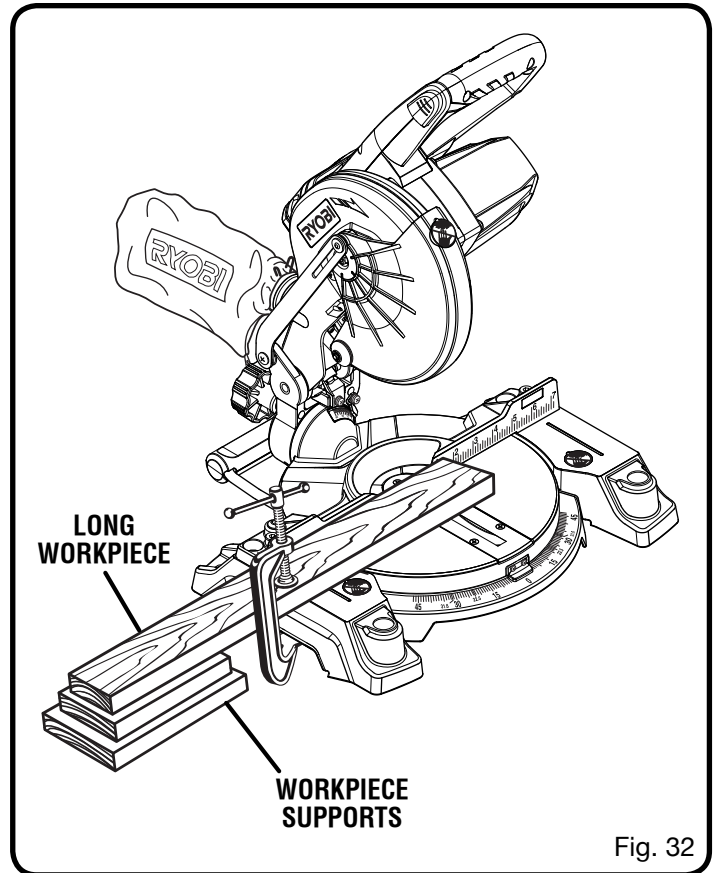

Fig. 32
- When cutting long pieces of lumber or molding, support the opposite end of the stock with a roller stand or with a work surface level with the saw table. See Figure 32.
- When cutting long pieces of lumber or molding, support the opposite end of the stock with a roller stand or with a work surface level with the saw table. *See Figure 32.*
See Figure 32.